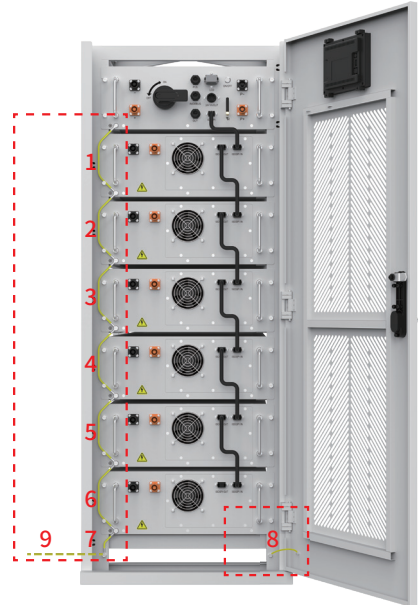

Figure 2
Step 2: As shown in Figure 2, insert the ground line from top to bottom in digital order, and the ninth line connects to the mains ground wire.